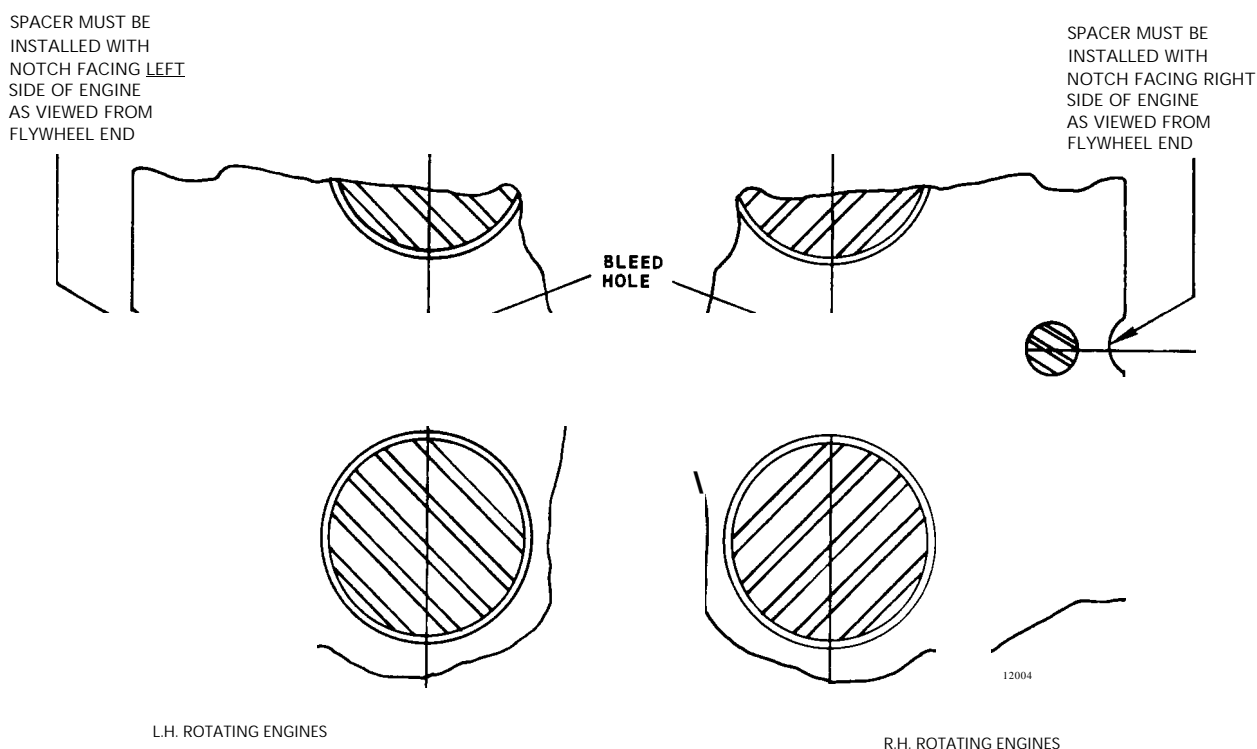

Fig. 8 - Orientation of Oil Pump Spacer Bleed Hole
6. Install the spacer. When installing the spacer between the pump bodies, be sure the bleed hole is located on the discharge side of the oil pump assembly (refer to Fig. 8).